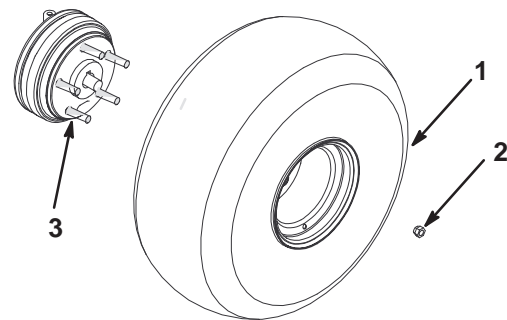

Figure 2
3. Mount the wheels with the previously removed fasteners (Fig. 2) and torque to 45–65 ft.-lb. (61–88 N·m).